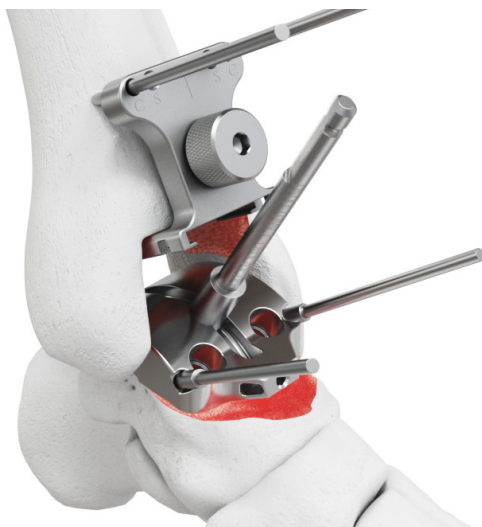

Fig. 25
2.9 Drill the central and anterior peg holes using the Peg Drill. Plantarflexion may help obtain the correct drill angle while avoiding the tibial trial. (Fig. 25)